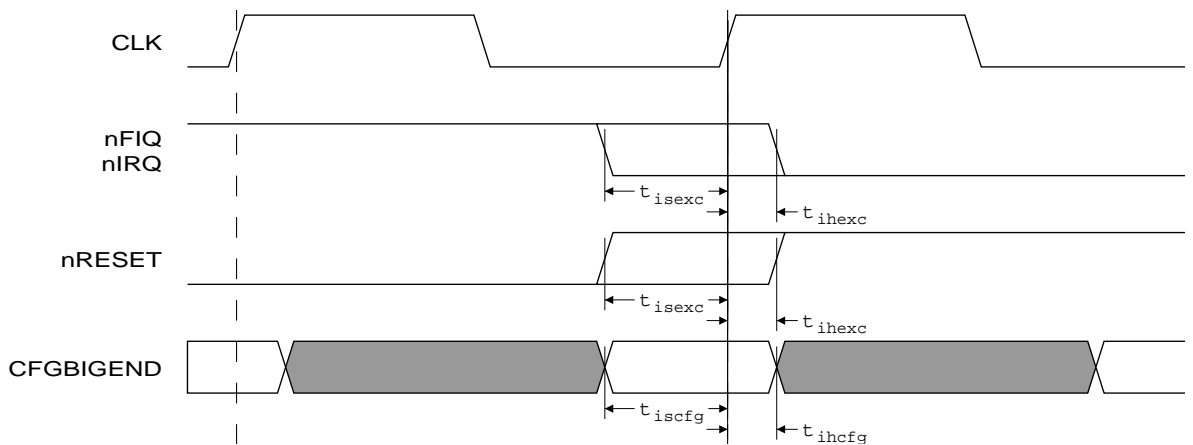

Figure 7-3 Exception and configuration input timing
- *Figure 7-3 Exception and configuration input timing*